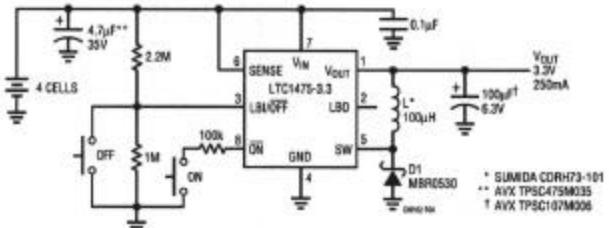

Figure 4. Pushbutton ON/OFF 3.3V/250mA Regulator
The LTC1475 provides the option of pushbutton control of ON/OFF mode for handheld products. In contrast to the LTC1474's ON/OFF mode, which is controlled by a voltage level at the RUN pin (ground = OFF, open/high = ON), the LTC1475 ON/OFF mode is controlled by an internal S/R flip-flop that is set (ON) by a momentary ground at the ON pin and reset (OFF) by a momentary ground at the LBI/OFF pin. This provides simple ON/OFF control with two pushbutton switches. A simple implementation of this function is shown in Figure 4.